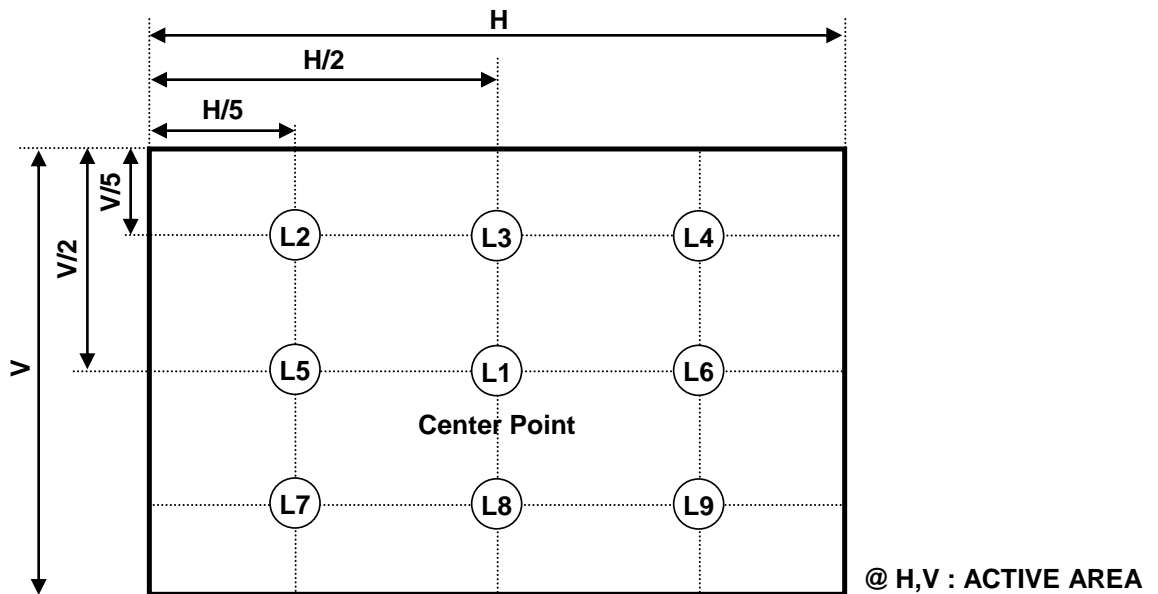

FIG. 2 5 Points for Luminance Measure
2. Surface luminance are determined after the unit has been 'ON' and More than 15 Minute after lighting the backlight in a dark environment at $25 \pm 2^\circ\text{C}$. Surface luminance is the luminance value at center 1-point across the LCD surface 50cm from the surface with all pixels displaying white. For more information see the FIG. 2.
For more information see the FIG. 2.